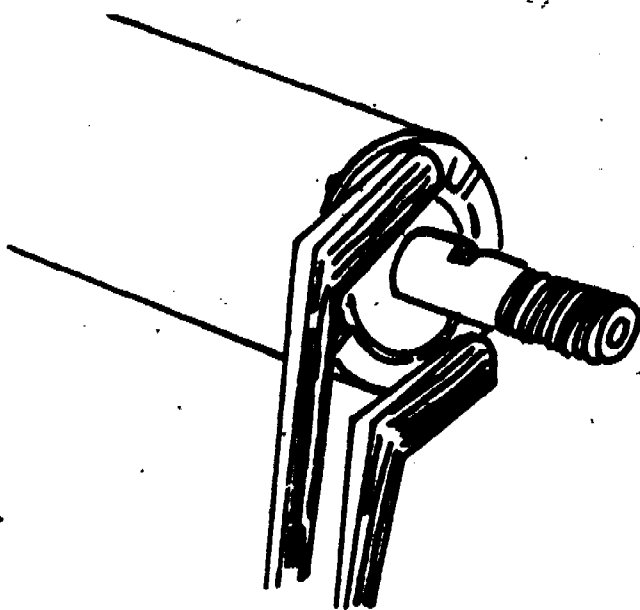

Figure 1.
- STEP 2. Use a spanner wrench to loosen the cover about 1/8 of a turn (as shown in Figure 1 below). This will bend out the staked portion of the outer cylinder. The cylinder should then be tapped lightly with a mallet in the staked area in order to straighten out the threads.